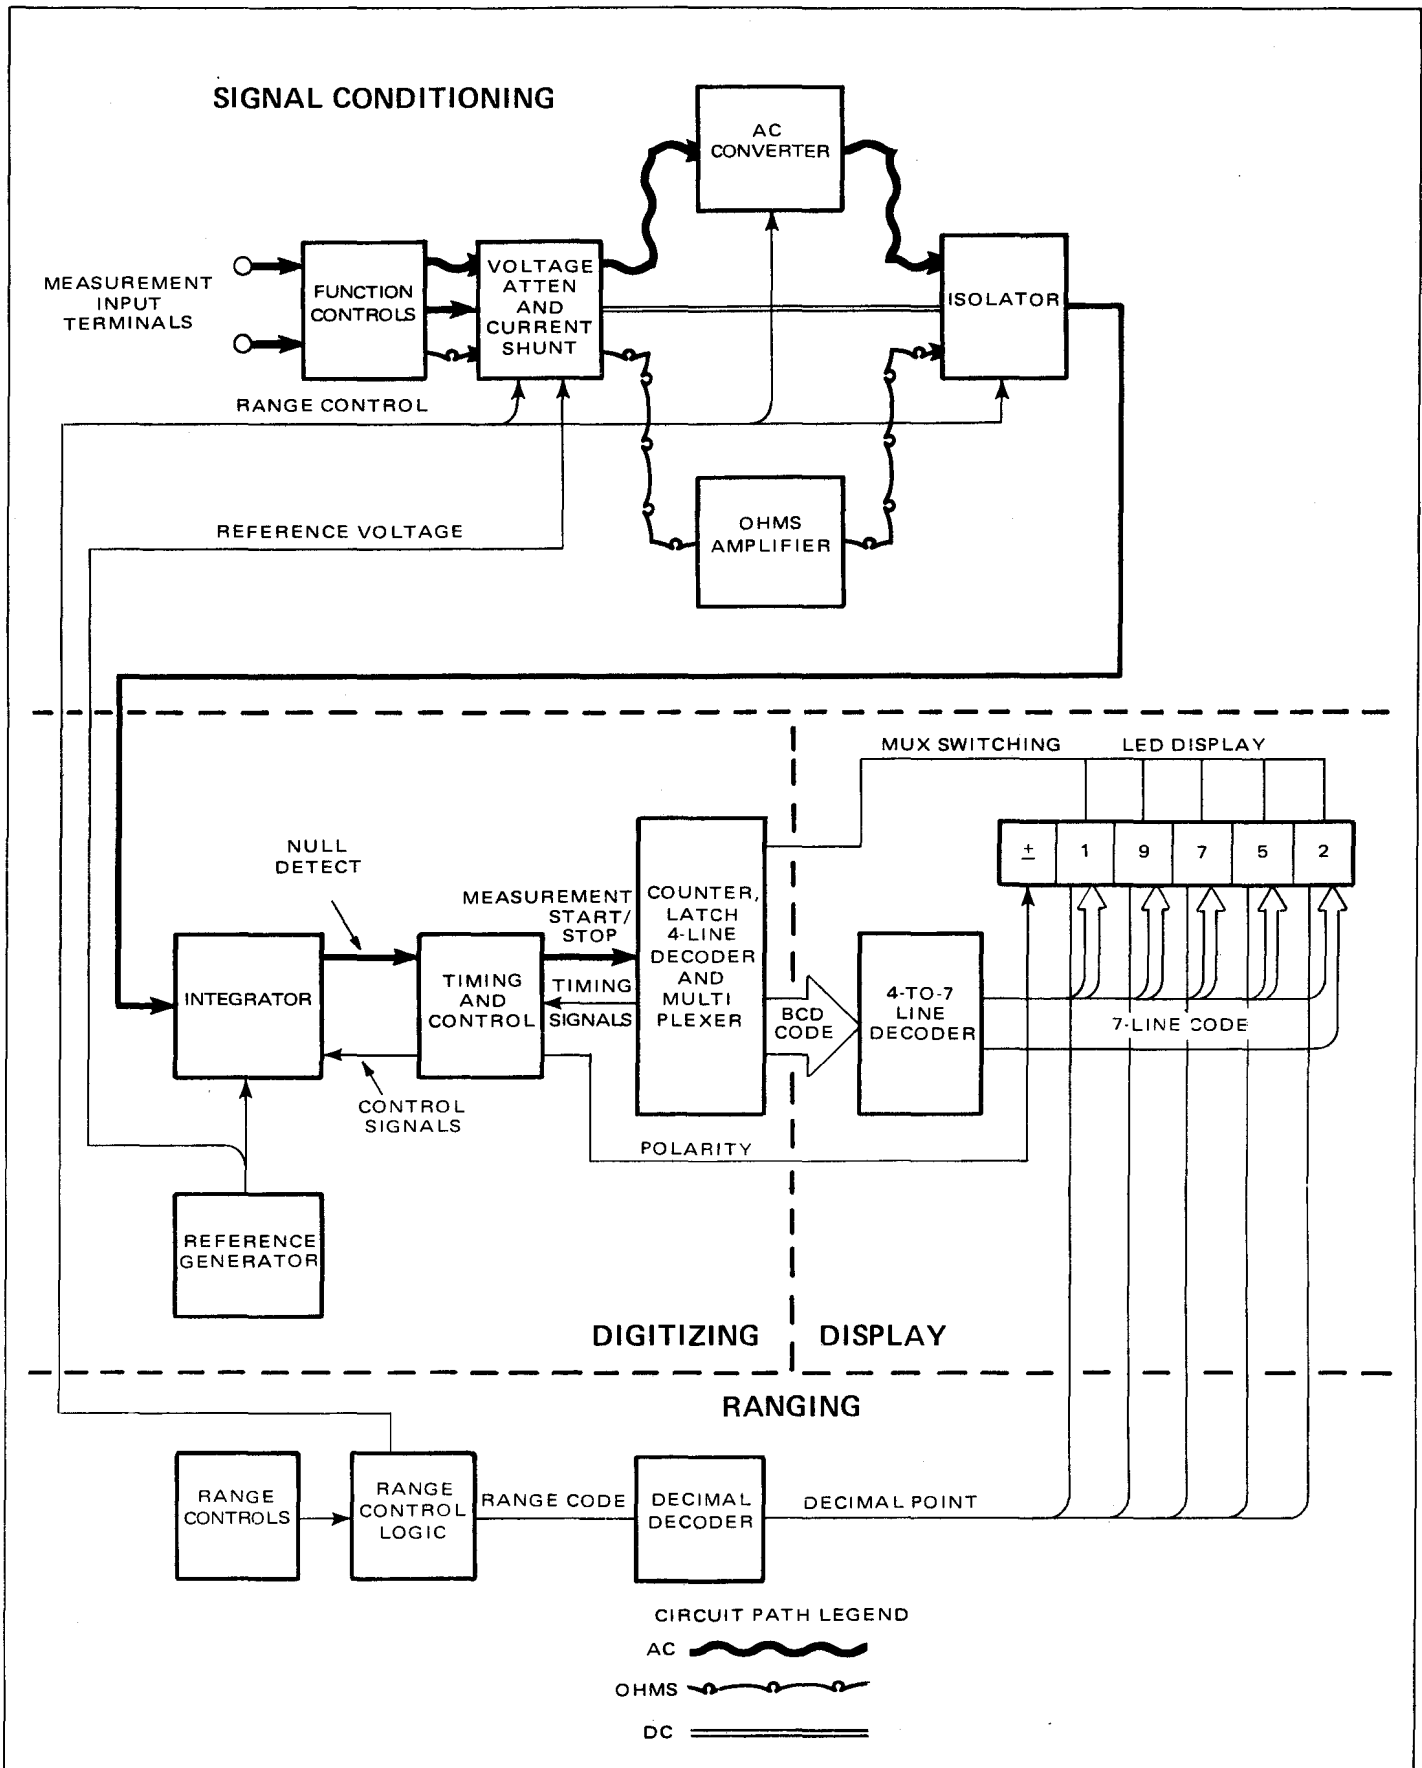
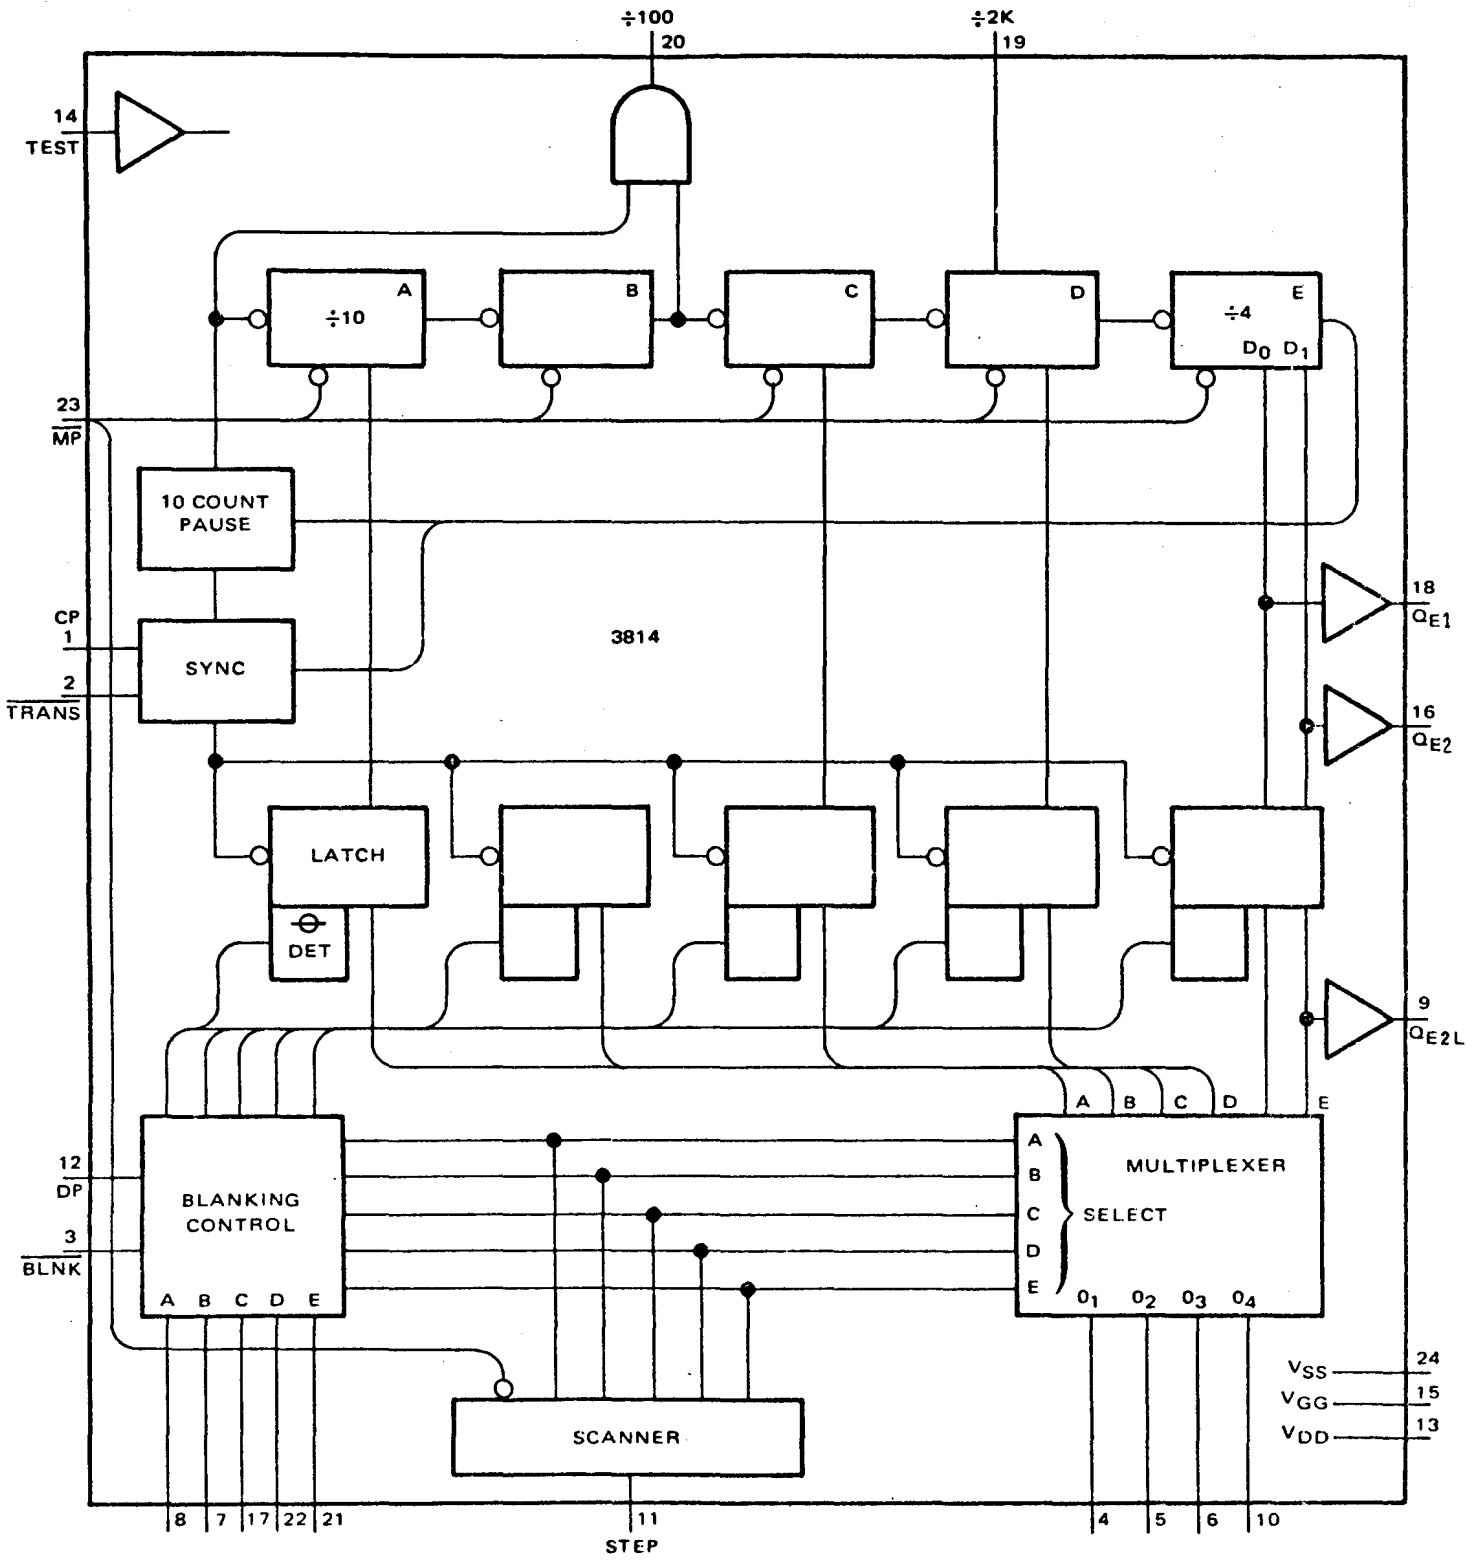

Figure 4.1 - Functional Block Diagram
Figure 4.13 - Logic Array
4.4 A functional block diagram of the instrument is presented in figure 4.1. The diagram is divided into four major areas for purposes of discussion; (1) Signal Conditioning, (2) Digitizing, (3) Ranging, and (4) Display. Measurement signals applied to the input terminals are routed to the appropriate signal conditioning device by the function controls. Because the isolator amplifier operates with low voltages, dc measurement signals higher than 2 volts must be scaled down. This is accomplished by the attenuator. The attenuator also changes the source current flow on the ohms ranges and provides the required shunting on ac current ranges. The ac converter contains its own voltage attenuator for the ac voltage ranges above 2 volts.
4.23 *Counter.* The heart of the instrument is the 3814 Digital Voltmeter logic array, shown on figure 4.1 as the counter, latch, 4-line decoder, and multiplexer. A more detailed illustration of this device is shown in figure 4.13. It contains four full decade counters, two overflow latches, an underrange output, an overrange output, outputs to drive a BCD to seven segment converter, and decoded outputs to strobe the display. The 3814 counts four full digits and the overrange digit. The 100 kHz clock drives the CP input to the 3814 chip. The decade counters change state on the rising edge of the clock pulse.
energized. However, this display strobe frequency is such that the LEDs appear to be continuously lit due to the persistence characteristic of the human eye. The decimal output from the decimal decoder is applied directly to the appropriate display device. The polarity signal is applied to the polarity display LED. The polarity signal is detected and produced by the Timing and Control signals and is shown on figure 4.1.